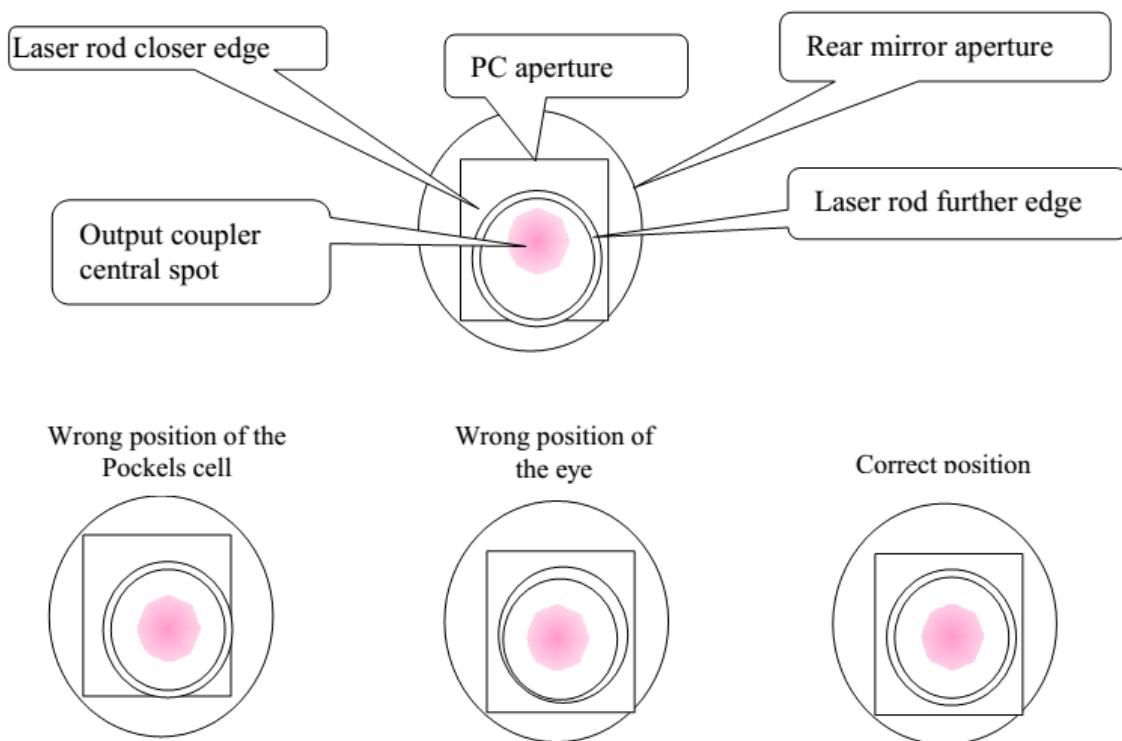

Figure 20 Positioning of Pockels cell
Turn the PC vertically with a 5 mm Allen key (4 in Figure 8) in order to see the maximum aperture of the crystal in the vertical direction. Release the screws fixing the PC to the holder, move the crystal up or down to see it vertically centered with respect to the laser rod (Figure 20). Tighten the fixing screws. If it's necessary to move PC holder horizontally to align it horizontally centered with respect to the laser rod, you have to remove Pockels cell with its heater and add or remove washers placed between the aluminum body and the PC holder.
5. Move the Pockels cell holder vertically (4 in Figure 8) and horizontally (5 in Figure 8) to get the 'cross' to the center of laser rod. Make sure your eye position is correct (Figure 20).